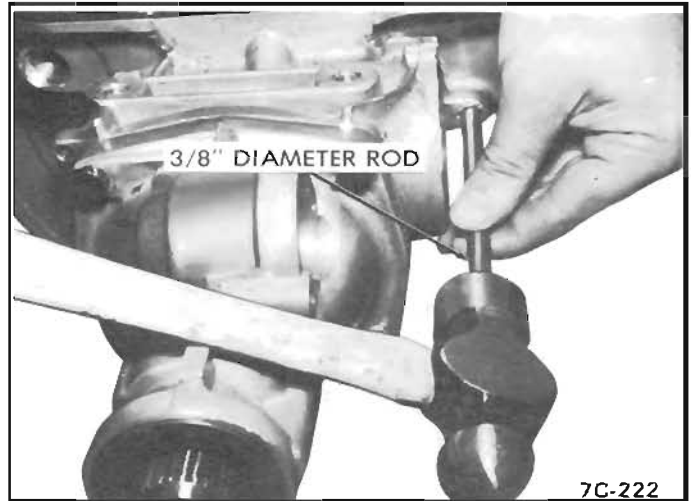

Figure 102 Retaining Plug Installation
3. Install parking pawl shaft retainer plug. Drive into case using a 3/8" diameter rod, until retainer plug is flush to .010" below face of case. Stake plug in three (3) places to retain plug in case. See Figure 102.